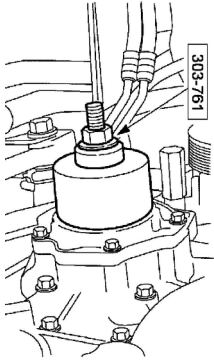

Figure 1
- #4. USING THE SPECIAL TOOL FROM FORD (#303-761) SHOWN IN FIGURE 1, INSTALL THE OIL SEAL AND WEAR SLEEVE ASSEMBLY.